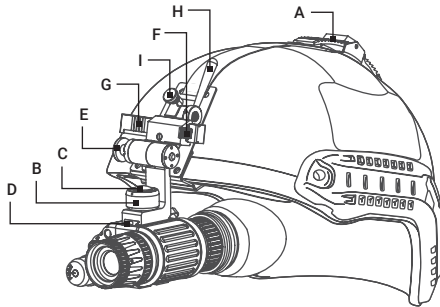

FIGURE 2-3. MOUNTING THE NVM TO A HELMET
Mount the NVM to a helmet as follows (refer to Figure 2-3):
In Figure 2-3, the NVM is shown in the correct position for the left eye. To readjust the NVM for the other eye, reverse its positioning and reinstall it on the helmet mount bracket (see Figure 2-3). Use the second unit rail located on the opposite side of the unit. Push the button (F) and move the unit along the slide-rail (G) until the most comfortable position is reached.